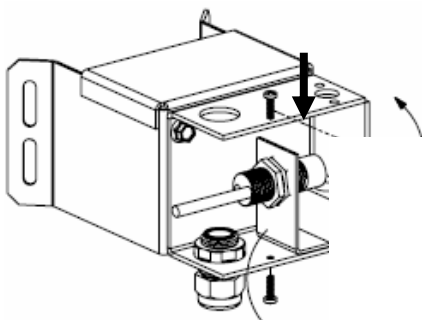

Figure 4. Move the sensor bracket to the bottom of the Receiver Housing on the same side.
4. Move the sensor bracket to the bottom of the ST5015 Receiver Housing using the existing holes and rotate the housing 180° (See Figure 4.)